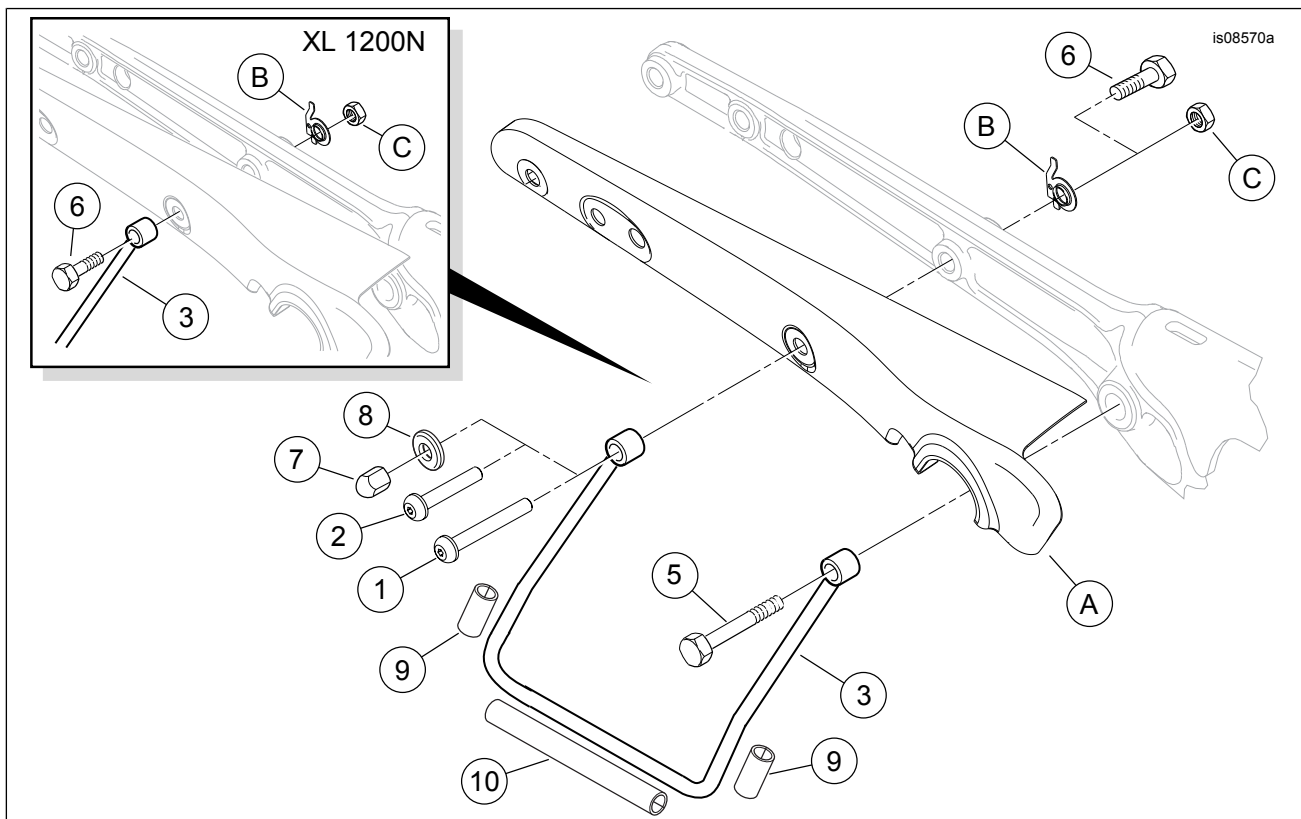

Figure 3. Service Parts, Saddlebag Support Kit
See Figure 3 and Table 1.
- 2000-2003 models with** sissy bar side plates, use the 2-7/8 in (73 mm) long bolt (1) from the kit, and the nut (C) removed in Step 3.
- 2000-2003 models without** sissy bar side plates, use the 2-3/4 in (70 mm) long bolt (2) from the kit, and the nut (C) removed in Step 3.
- 2004 and later models except XL1200N**, use the 3-1/4 in (83 mm) long screw (6), spacer (8) and locking acorn nut (7) from the kit.
- XL1200N models**, use the 3-1/4 in (83 mm) long screw (6) from the kit, and the nut (C) removed in Step 3.
- See Figure 3. Position the support bracket (3) with the front mounting hole over the shock absorber stud and the rear mounting hole over the hole in the fender support.
- 2000-2003 models**, install the saddlebag support to the vehicle by inserting the correct bolt (1 or 2) through the rear support mounting hole, the rear fender support cover, fender support frame rail, rear fender and wire retention bracket. Fasten with the nut removed in Step 3. Tighten to 10.8–17.6 N·m (96–156 in-lbs). **2004 and later models EXCEPT XL1200N**, install the saddlebag support to the vehicle by inserting the bolt (6) through the wire retention bracket, rear fender, fender support frame rail, rear fender support cover and rear saddlebag support mounting hole. Place the spacer washer (8) onto the screw threads. Install the locking acorn nut (7). Tighten to 10.8–17.6 N·m (96–156 in-lbs). **XL1200N models**, install the saddlebag support to the vehicle by inserting the bolt (6) through the rear support mounting hole, the rear fender support cover, fender support frame rail, rear fender and wire retention bracket. Fasten with the nut removed in Step 3. Tighten to 10.8–17.6 N·m (96–156 in-lbs).
- Secure the front of the saddlebag support bracket. Secure the upper shock absorber mount, using the 1/2-13 hex head screw (5) from the kit. Tighten the screw to 61–68 N·m (45–50 ft-lbs).